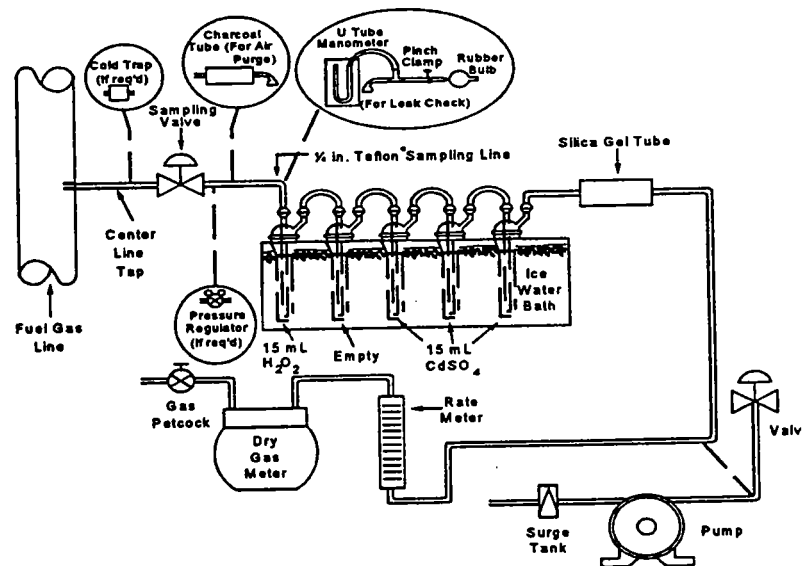

Figure F11-1. H_2S Sampling train.
1. Assemble the sampling train as shown in Figure F11-1.
- a. Connect the rubber bulb and manometer to the first impinger, as shown in Figure F11-1. Close the petcock on the DGM outlet.
7. Disconnect the impinger train from the sampling line, and connect the charcoal tube and the pump, as shown in Figure F11-1.